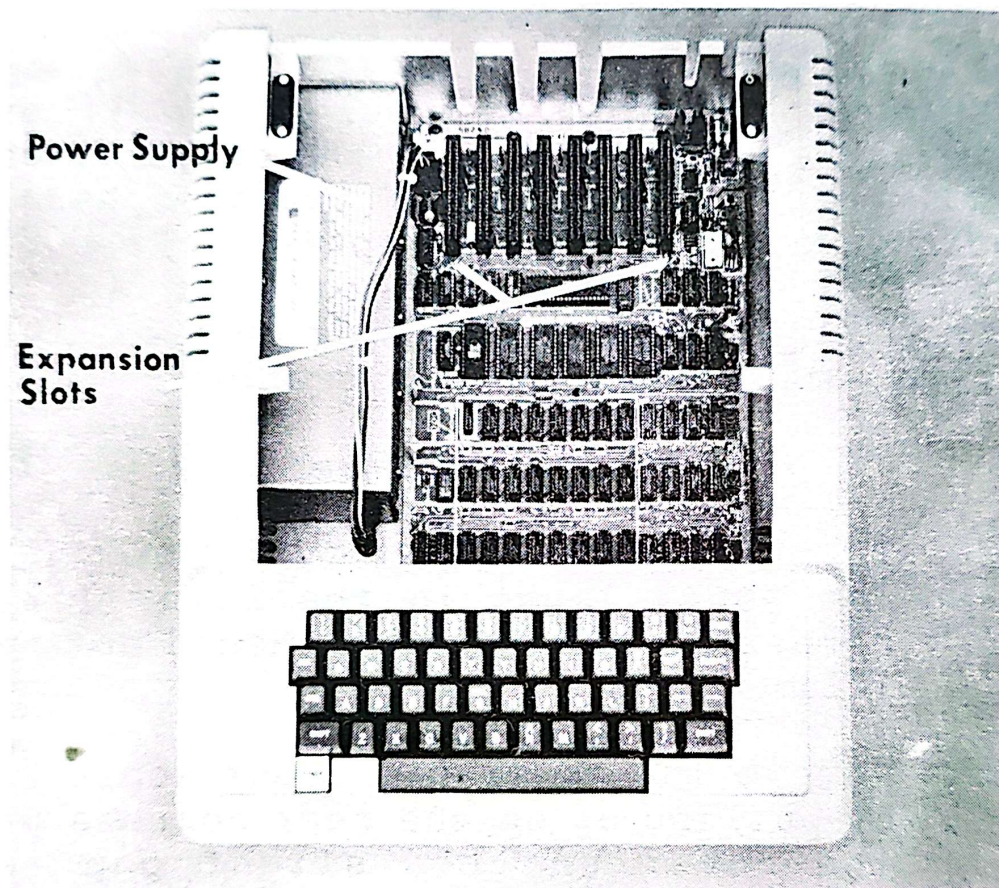

Figure 1
4. Position your Apple][computer comfortably in front of you with the keyboard nearest you. Familiarize yourself with the various interior components of the Apple][computer. See Figure 1 for details. These will be referred to in later installation steps.